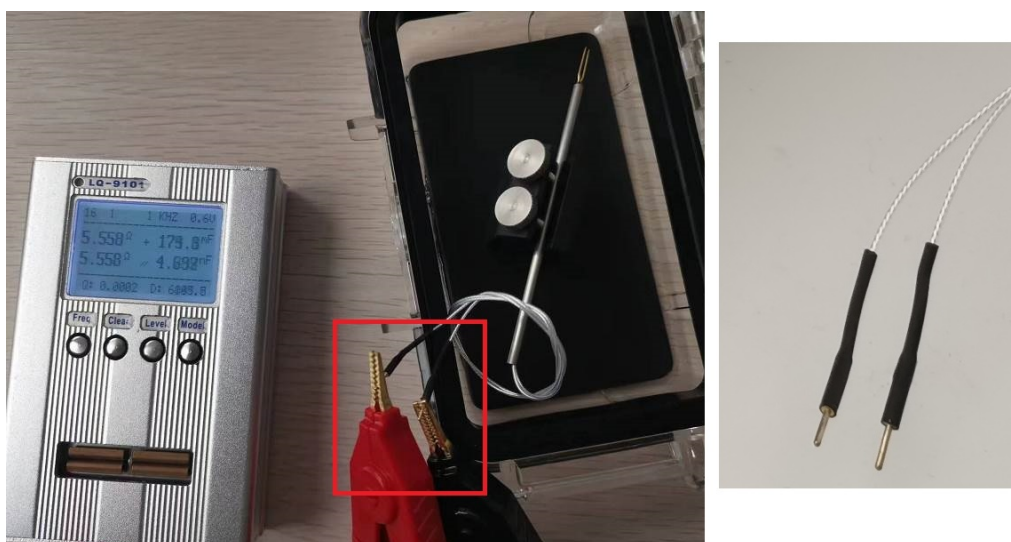

Figure 11: Cold resistance measurement
Step 2: Use a resistance meter (or multimeter) to measure the resistance R between the mini-banana connectors at the end of the probe cable, as shown in Figure 11.